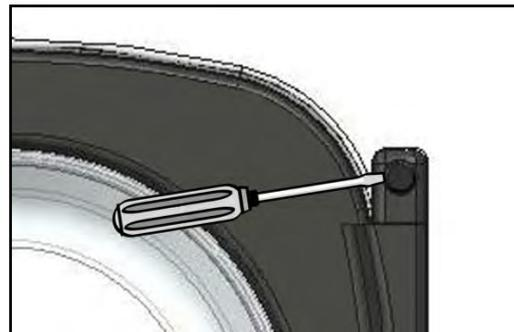
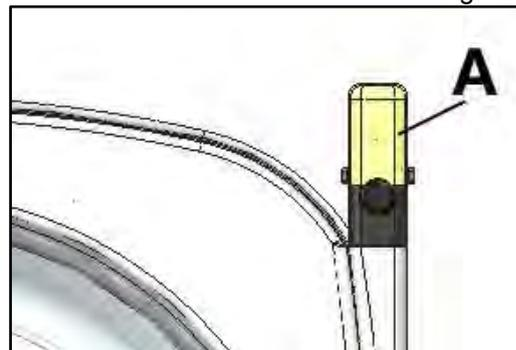

Fig. 9.1
Fig. 9.2
- Remove the protective caps from the hinge securing screws. (Fig. 9.1). On RMS/RMG628, REM/RMG070, HS-6024 and EH040 models, the plastic protector has to be removed first (Fig.9.2/A).